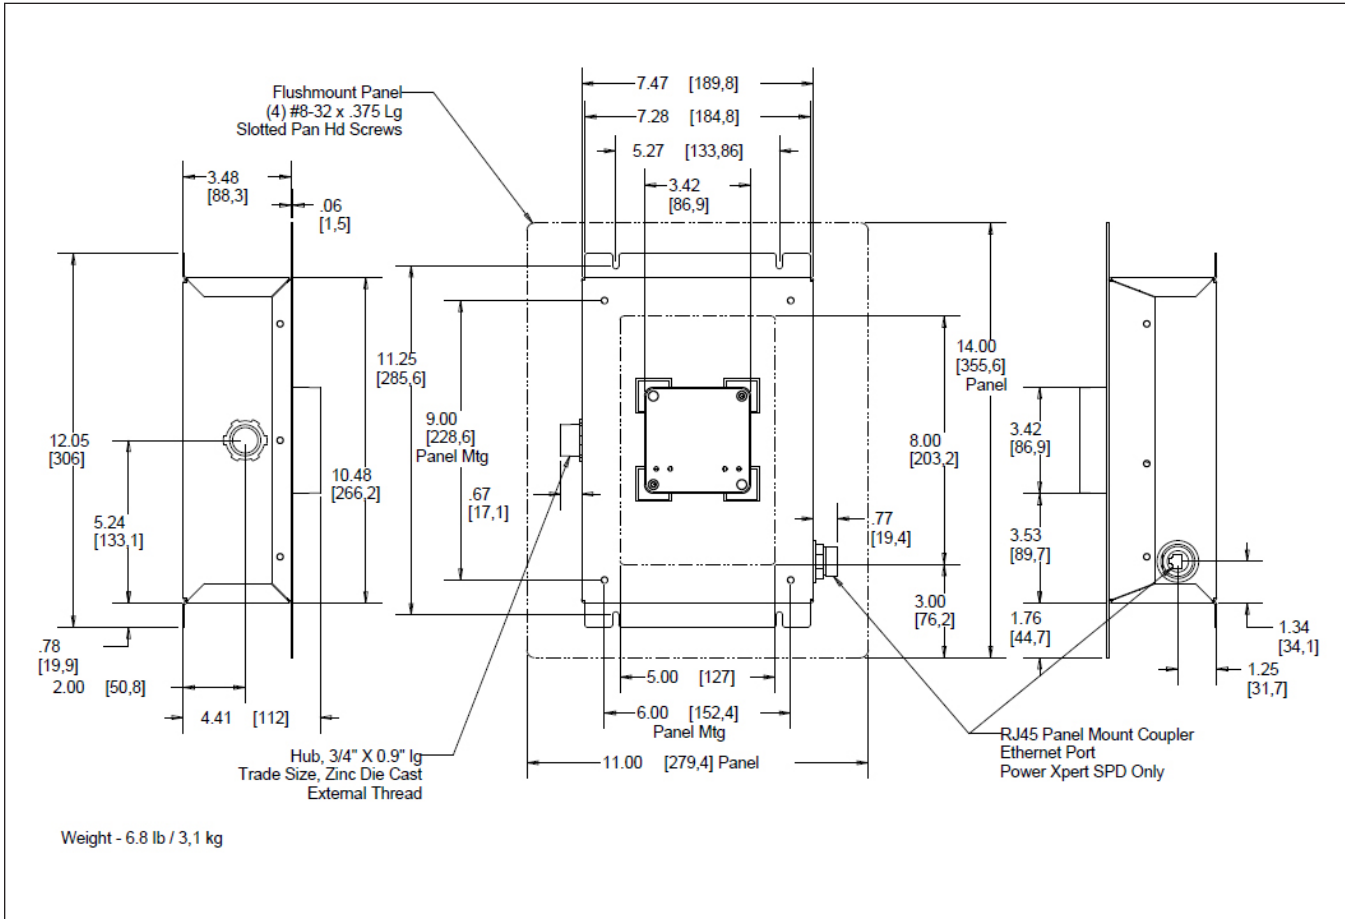

Figure 2. NEMA 1 (with flushmount) (suffix L)
1. Before mounting the SPD first determine the ideal location and ensure that the mounting surface is adequate to support the weight of the SPD (See Figures 2, 3, 4, 5, and 6 on pages 4, 5, and 6 for model weights). The SPD should be mounted as close as possible to the electrical enclosure and as close as possible to the wiring connection point within the enclosure. This will ensure a minimum wire length and maximum SPD performance.
2. Layout the four enclosure mounting holes using the enclosure dimensions provided in Figures 2, 3, 4, 5 and 6 on pages 4, 5 and 6. Drill the appropriate holes per the product dimensions.
Note: To maintain a NEMA 4 enclosure rating when connecting an ethernet cable to the enclosure install a Conec RJ45-IP67 plug kit p/n: 17-10001 to the enclosure as shown in Figures 2 -6..